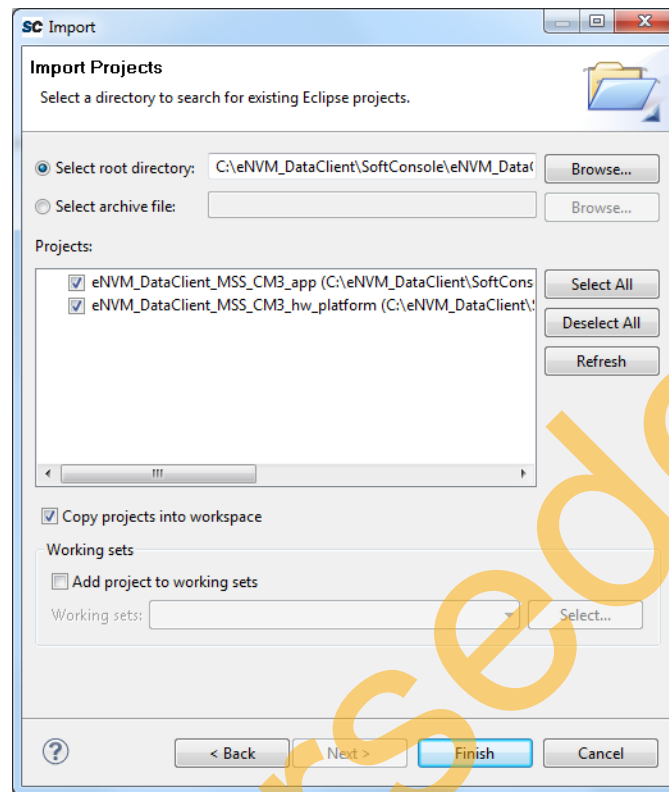

Figure 6 • SoftConsole IDE - Creating Work Space in App Folder
4. Ensure that **Copy projects into workspace** check box is checked as shown in Figure 6. Click **Finish**.